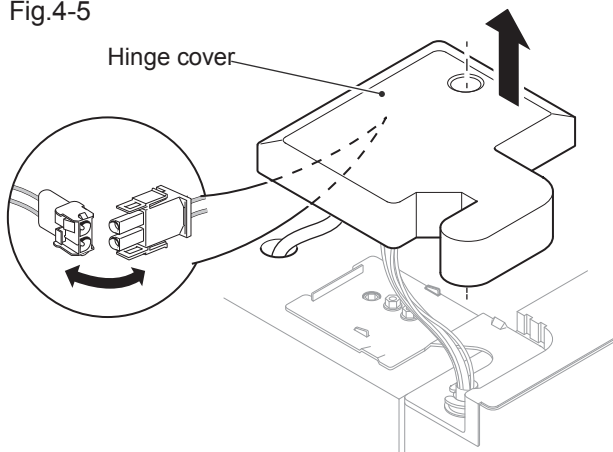

Fig.4-6
2. Undo the screws holding the upper hinge in position and then remove the hinge (Fig.4-6).